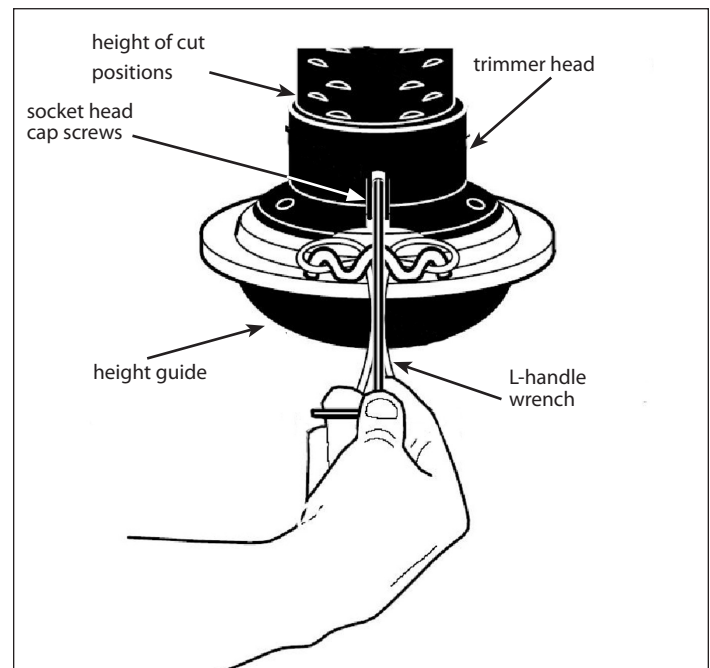

FIGURE 15: Setting the height of your cut.
The height of the cut can be set from 1-1/2 inches to three (3) inches. The recommended cutting height for the average yard is two (2) inches. **SEE FIGURE 15**